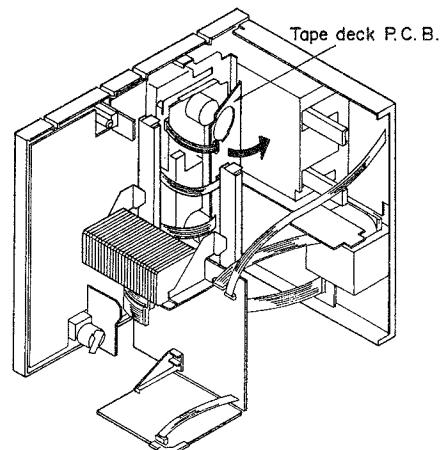

Fig. 4
8. When checking the soldered surface of the tape deck P.C.B. and replacing the parts, do as shown in the fig. 4.